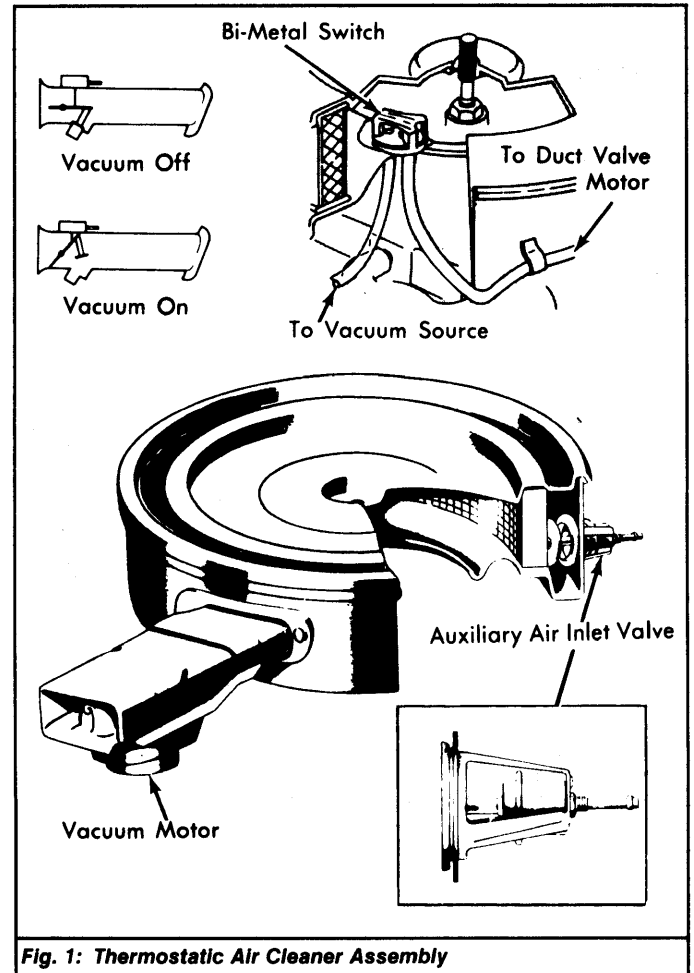

Fig. 1: Thermostatic Air Cleaner Assembly
- 3) Open and close throttle rapidly. Valve should open during throttle opening. If valve does not function properly, check vacuum motor air door for binding. See Fig. 1.